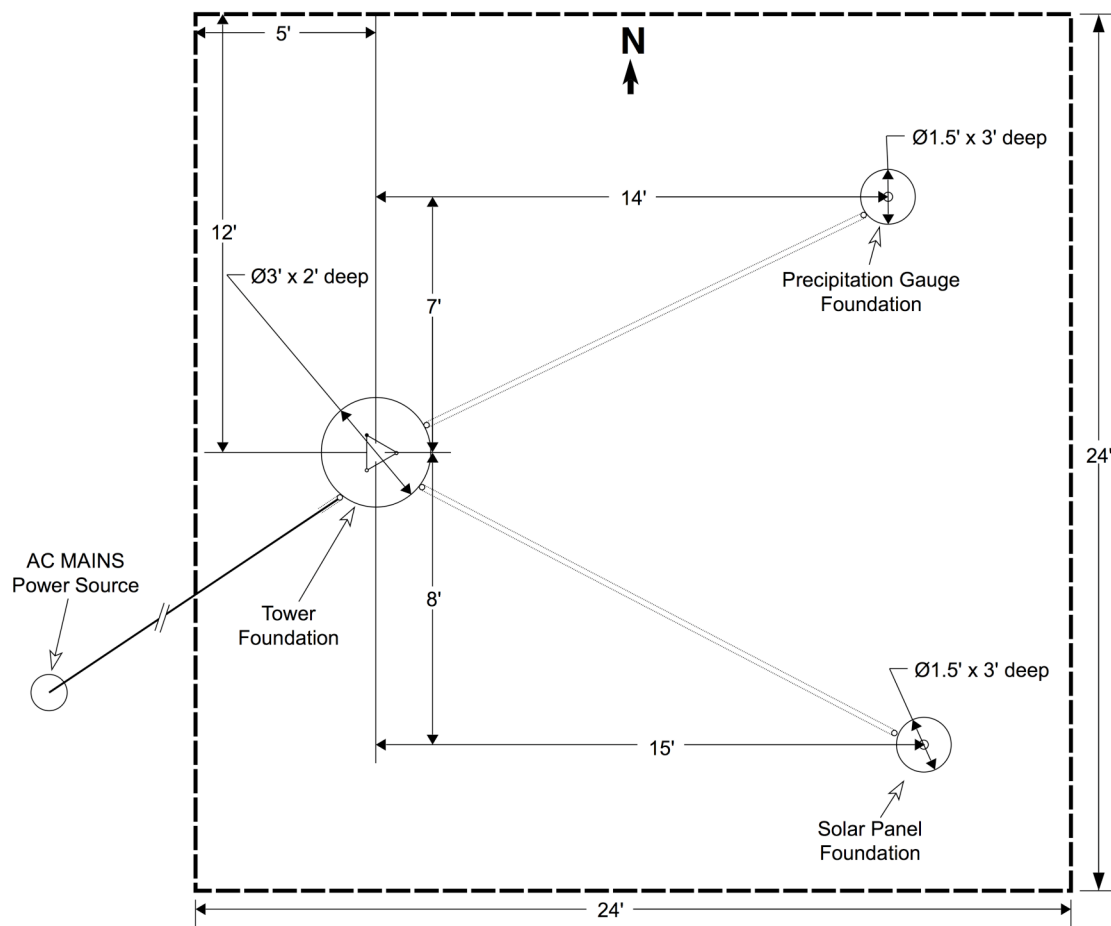

Figure 3. Plan view of a station plot that measures 24-by-24 feet showing foundation and conduit placement.
6. Install the tower base foundation, as shown in Figure 3, with the center of the tower 5 feet east and 12 feet south of the northwest corner of the plot. Install the tower base so that the tower will tilt to the west, with one of the flat tower sides facing due west (i.e., the side extends north-south). If a concrete foundation is necessary, take a photo of the foundation hole before pouring the concrete, as explained in Section 12, Photographic Documentation of Station Installation, beginning on Page 43. Install the concrete base for the tower as illustrated in Figure 3.
7. Install the concrete foundation for the precipitation gauge 7 feet north and 14 feet east of the tower, as shown in Figure 3. The precipitation gauge must be centered at the location shown in Figure 3. Dig a hole 1.5 feet in diameter and 3 feet deep, and insert a cylindrical concrete form into the hole. Drive a 2" pipe that is long enough to extend from the bottom of the hole to the precipitation gauge mount into the ground at the center of the hole. Verify that the pipe is exactly vertical and centered in the concrete form, and secure it in place at the top of the hole with a jig. Take a photo of the foundation hole before pouring the concrete, as explained in Section 12, Photographic Documentation of Station Installation, beginning on Page 43. Fill the concrete form with concrete and allow it to cure.
8. Install the solar panel mast foundation (if a solar panel is to be used) at a distance 8 feet south and 15 feet east of the tower, as shown in Figure 3. Dig a hole 1.5 feet in diameter and 3 feet deep, and insert a cylindrical concrete form into the hole. Drive a pipe of the proper size for the solar panel mount and that is long enough to extend from the bottom of the hole to the solar panel array mount into the ground at the center of the hole. Verify that the pipe is exactly vertical and centered in the concrete form, and secure it in place at the top of the hole with a jig. Take a photo of the foundation hole before pouring the concrete, as explained in Section 12, Photographic Documentation of Station Installation, beginning on Page 43. Fill the concrete form with concrete and allow it to cure.
23. Install conduit between the tower and the solar panel or solar battery enclosure, as shown in Figure 3. At the solar panel end, leave enough conduit length to attach it directly to the battery enclosure with a conduit fitting or to route it to the solar panel junction box where the output cable is connected to prevent string trimmer, lawn mower, or animal damage to the cables. At the tower end, leave enough conduit length to attach it directly to the logger enclosure with a conduit fitting. Bury the conduit so that it is at or below ground level to allow a mower to pass over it.
35. Install conduit between the tower and the precipitation gauge pedestal, as shown in Figure 3, allowing enough length to route it up the precipitation gauge pedestal to the base of the gauge and to the tower leg holding the data logger. At the tower end, leave enough conduit length to attach it directly to the logger enclosure with a conduit fitting to prevent string trimmer, lawn mower, or animal damage to the cables. Bury the conduit so that it is at or below ground level to allow a mower to pass over it.